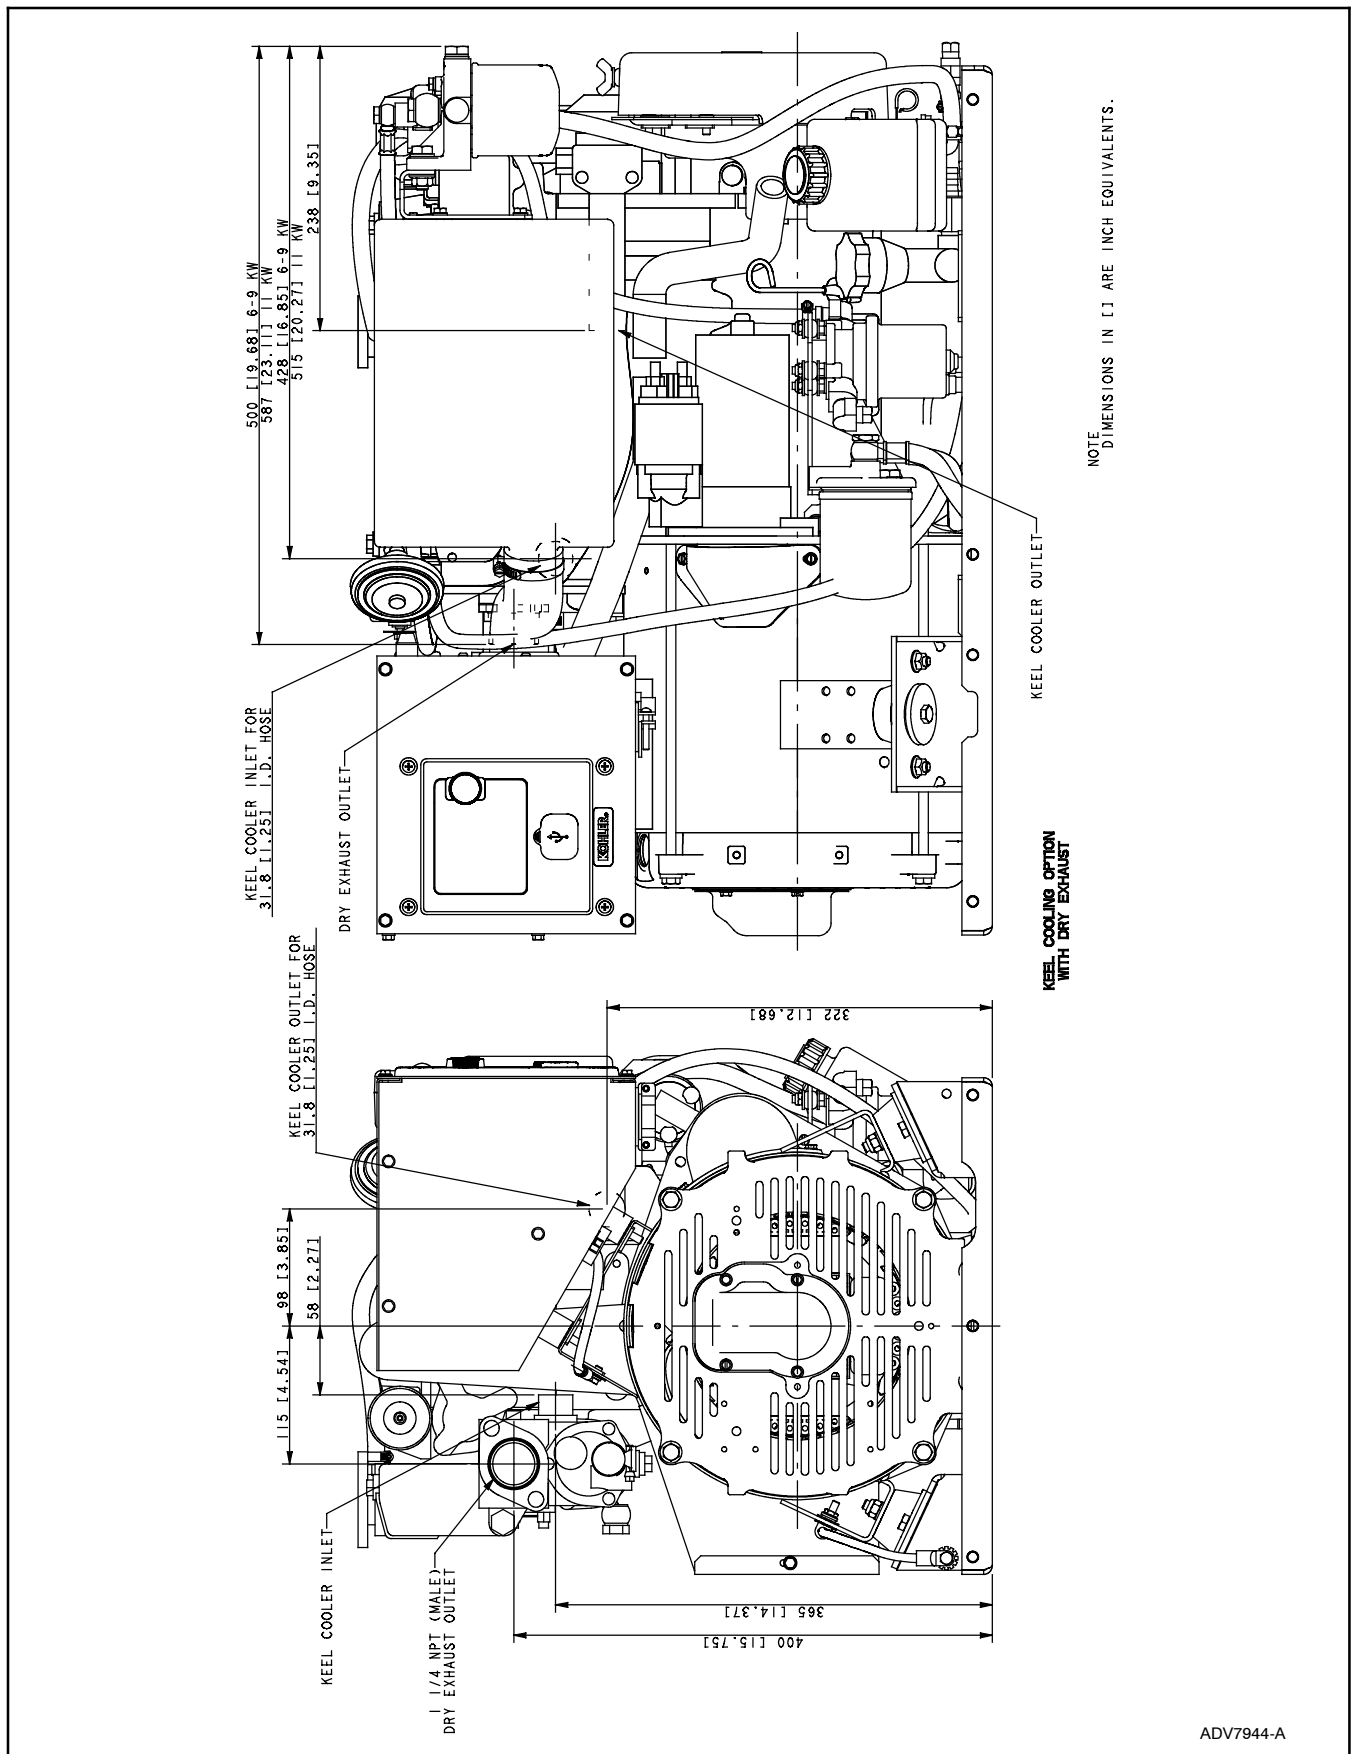

Figure 10 Dimension Print
- 2.19 See Figure 10 for the vessel's keel cooler inlet/outlet locations and dimensions.